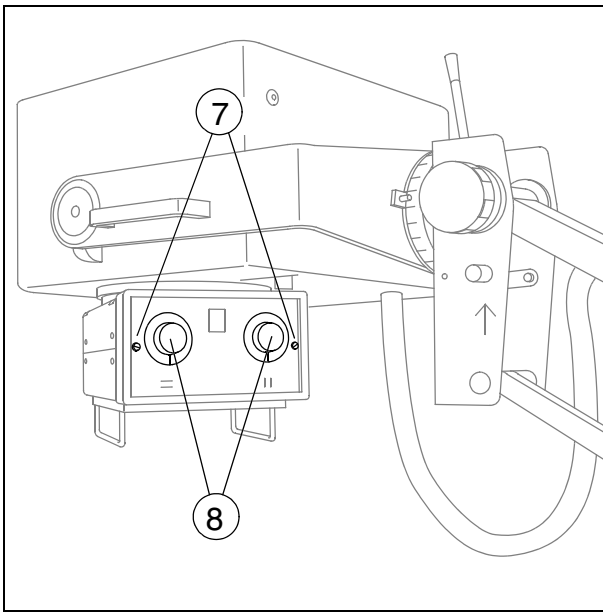

Fig. 6
- Remove the front panel after you have removed the two screws (7/ Fig. 6).
- Turn both knobs (8/Fig.6) to the end position and remove them.
- Remove the front panel after removing both screws (7/Fig.6) .